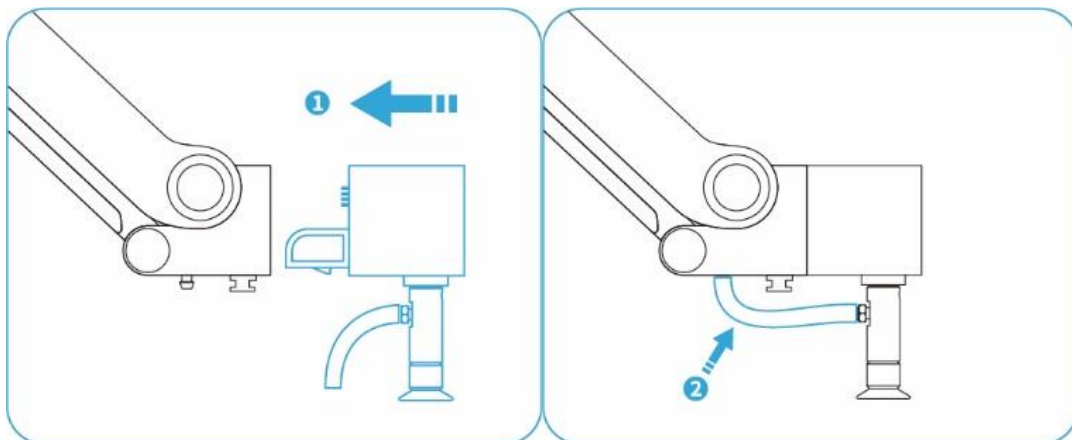

Figure 1.2 Installing the suction cup
Step 2: Install the suction cup and power on the Magician Lite, as shown in Figure 1.2.